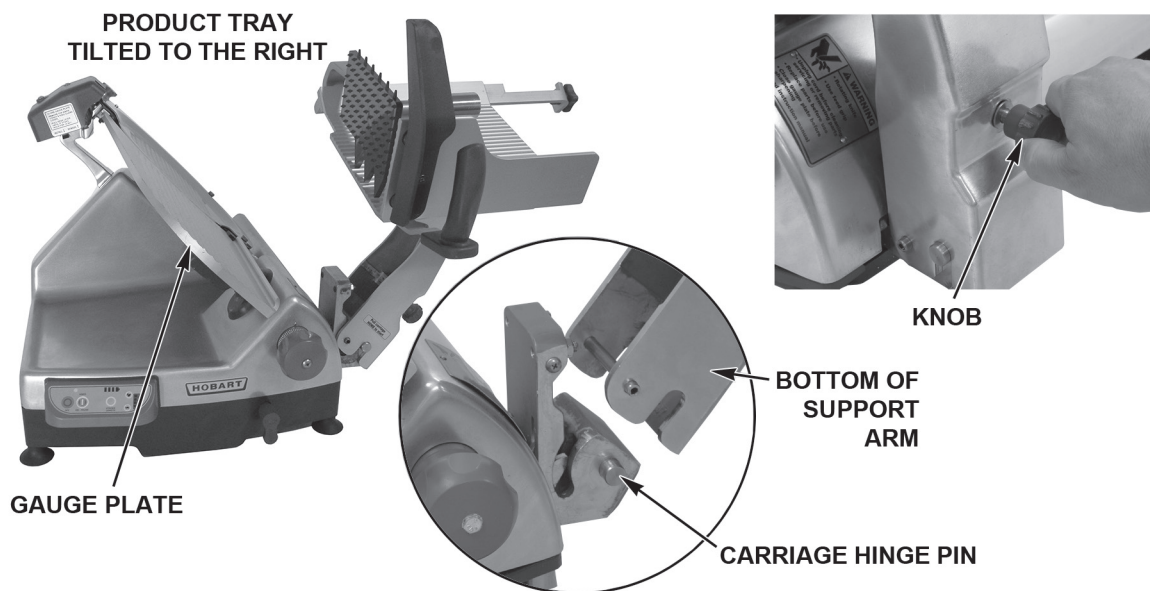

Fig. 9
- Loosen the Knob (Fig. 9) on the Support Arm. Tilt the Product Tray to the right (Fig. 9).